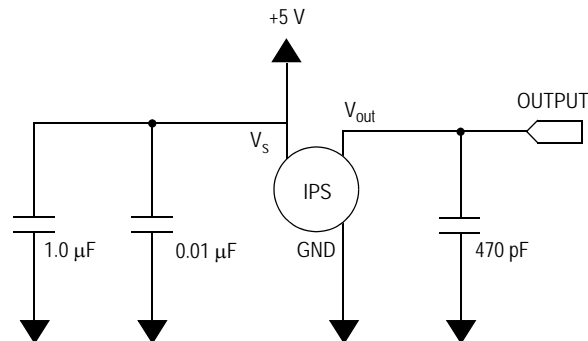
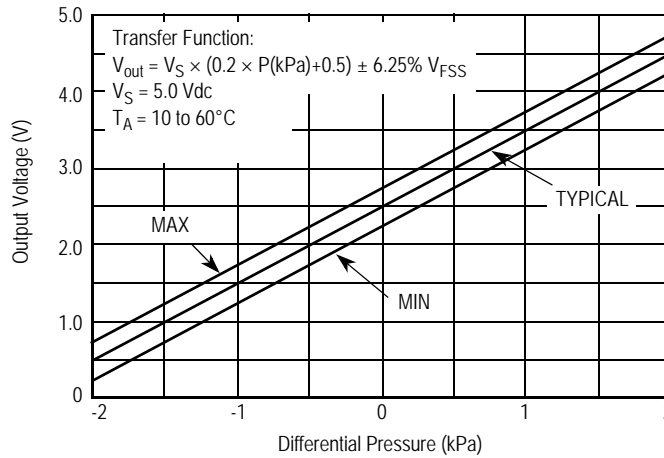

Figure 3. Recommended Power Supply Decoupling and Output Filtering
Figure 4. Output versus Pressure Differential
**Table 1. Operating Characteristics** ( $V_S = 5.0$  Vdc,  $T_A = 25^\circ\text{C}$  unless otherwise noted. Decoupling circuit shown in Figure 3 required to meet specification.)
Figure 3 shows the recommended decoupling circuit for interfacing the integrated sensor to the A/D input of a microprocessor or microcontroller. Proper decoupling of the power supply is recommended.
Figure 4 shows the sensor output signal relative to pressure input. Typical, minimum, and maximum output curves are shown for operation over a temperature range of 10° to 60°C using the decoupling circuit shown in Figure 3. The output will saturate outside of the specified pressure range.